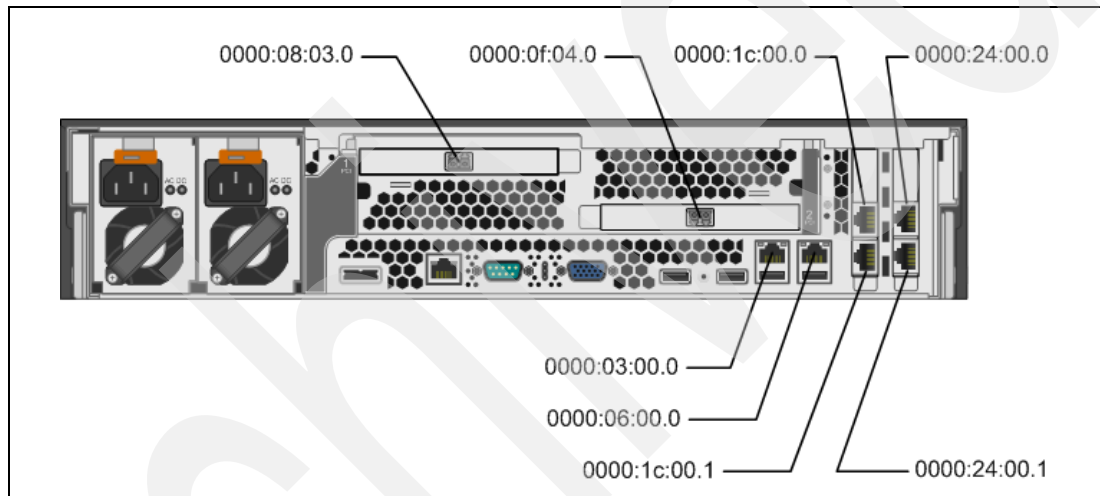

Figure 3-12 System x 2229 FSG rear view with I/O adapters and PCI slots locations and location codes
1. Make sure that the Ethernet cables (customer provided) are correctly connected in PCI port locations 0000:1c:00.0 and 0000:24:00.0 if you use copper interfaces and in PCI port locations 0000:08:03.0 and 0000:0f:04.0 if you use optical interfaces. See Figure 3-12 on page 117.
The FSG Linux operating system uses the udev facility for dynamic device mapping. udev maps a PCI slot location (see Figure 3-12) to a logical interface name such as eth0. The name mapping rules used by udev are located in the file /etc/udev/rules.d/30-net_persistent_names.rules on the FSG.